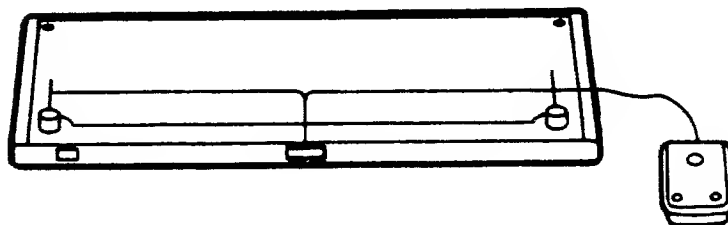

Figure 2-8. Bottom View of Keyboard
4. Thread the mouse cable through one side of the groove at the back of the keyboard. For example, Figure 2-8 shows the mouse cable threaded to the right side of the keyboard to accomodate a right-handed person.